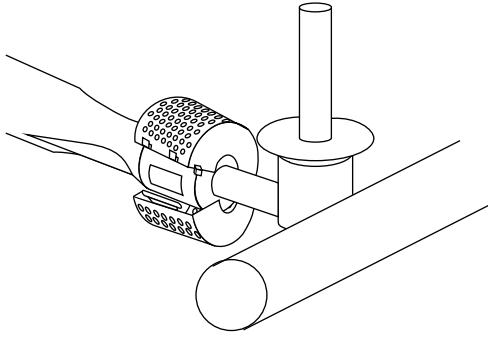

Figure 21
- d) Unlatch the Spider Stopper Guards and remove. Figure 21.